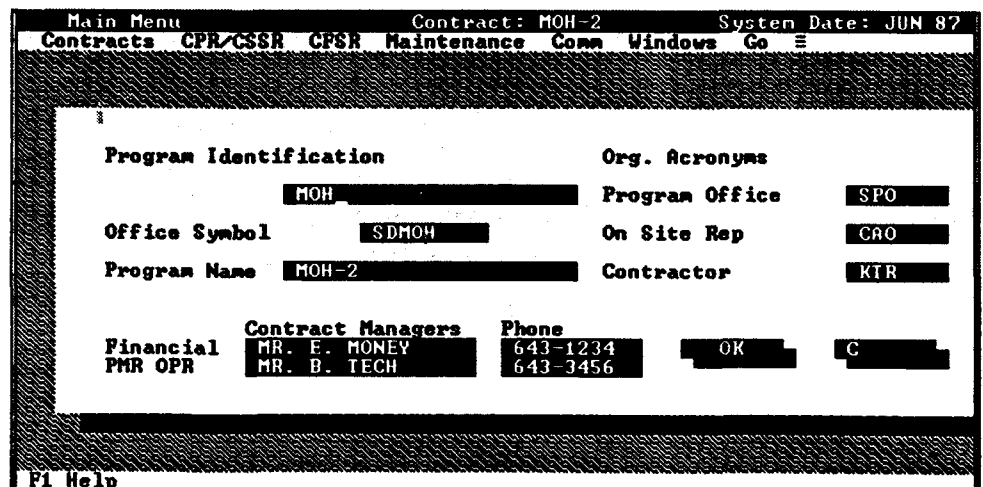

Figure 3-8
This menu option gives you the ability to specify government organizational identifiers which are typically entered as part of the initial contract information. When you select **Organizational Defaults**, a data input dialog box will appear (Figure 3-8). From this dialog box you can enter the SPO name, SPO office symbol and program name. You can also enter acronyms for the following terms (1) Program Office, (2) on-site representatives, and (3) contractor. These acronyms will be used in menus, input screens, graphs, and reports.
The WBS codes entered are important because they are used to identify the elements on reports/graphs. These codes do not affect the summation process, but are defaulted to the Sort field to determine the order that the elements are displayed within a level. For example, Figure 3-8 displays the WBS for the sample contract MOH-2. Element 2000 is displayed to the left of element 3000. Element 4000 is displayed to the left of element 5000, and so forth.